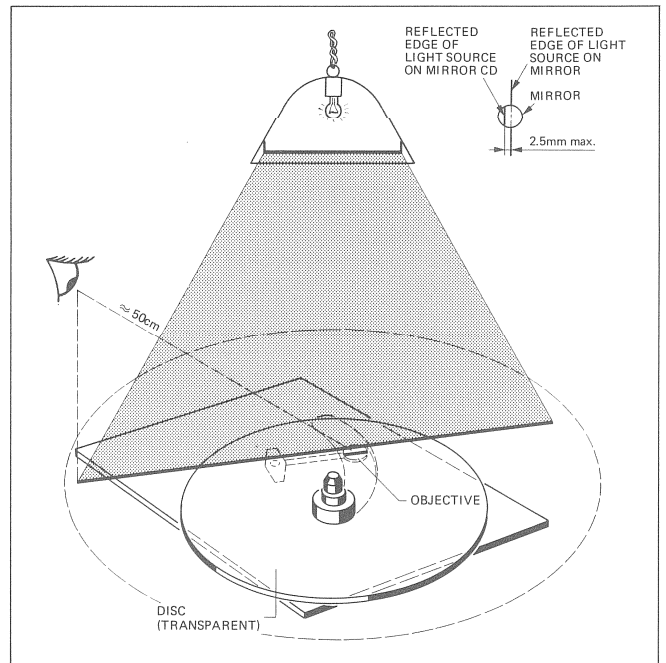
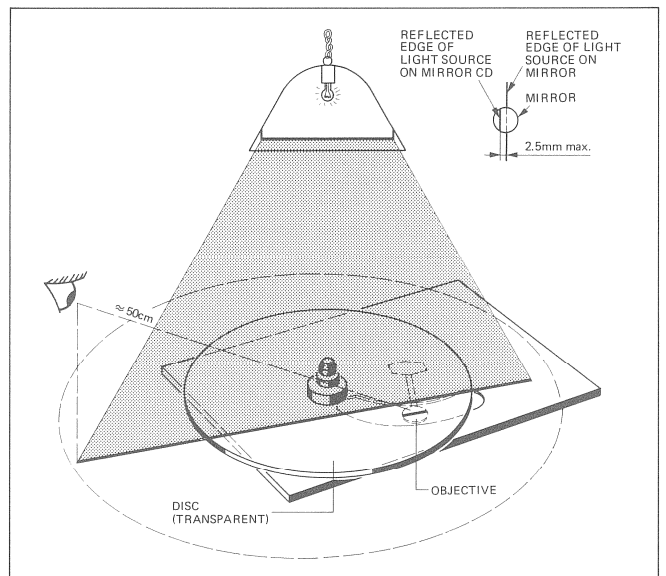

Fig. 4.5
Fig. 4.6
-> Fig. 4.5 / Fig. 4.6
- When you observe the two shadow lines on the glass CD and on the mirror (Fig. 4.5), the lateral offset should not exceed 2.5 mm.
- Position the play mechanism in such a way that the shadow line runs perpendicular to the scanning arm, but through the center of the mirror on the optical laser system. (Fig. 4.6)